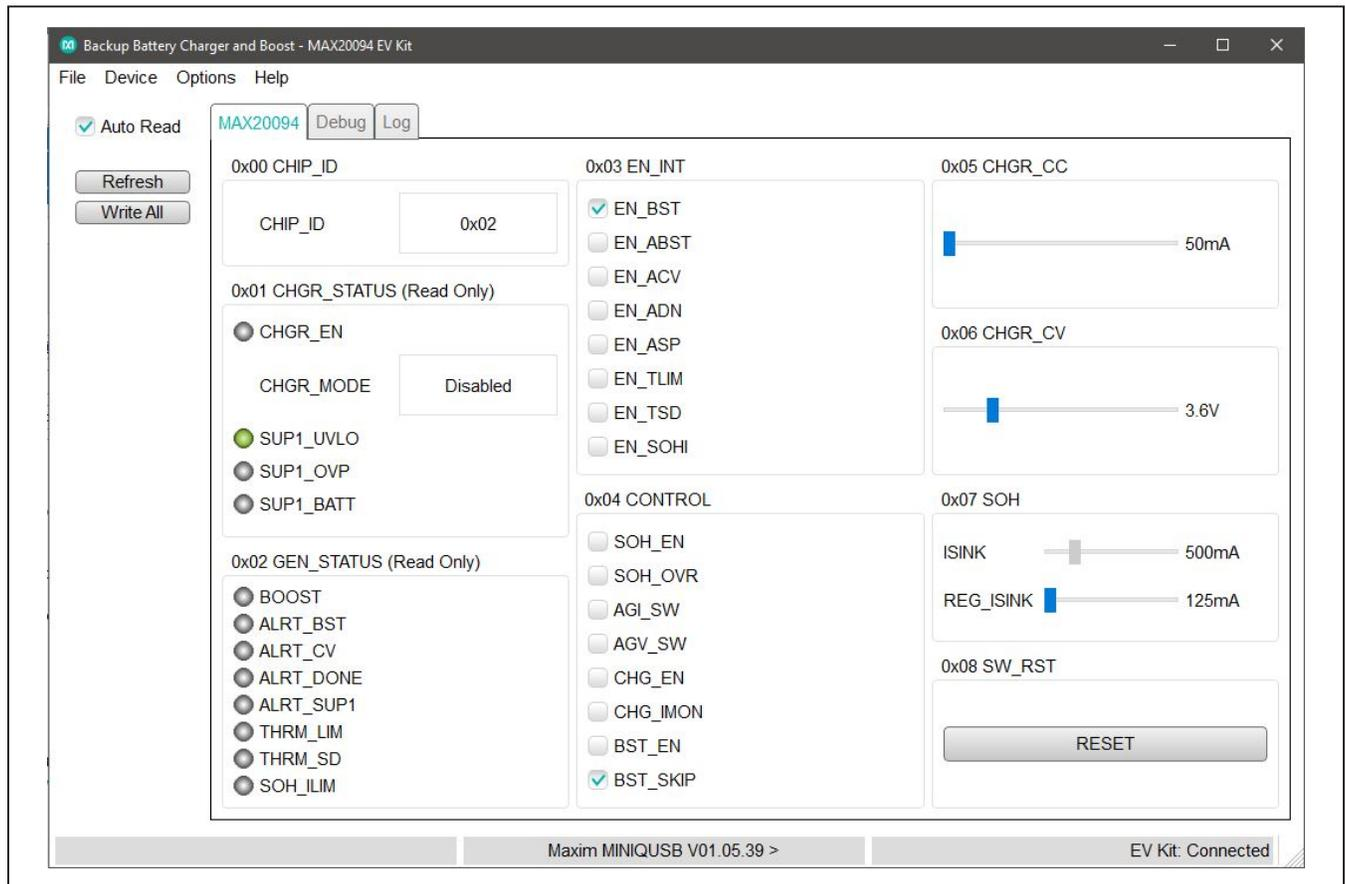

Figure 1. MAX20094 Evaluation Kit Software Main Window (also applies to the MAX20095 EV Kit)
- 7) Check **CHG\_EN** in the GUI (Figure 1) to enable the charger.
- 6) Check **SOH\_EN** in the GUI (Figure 1) to enable the SOH function.
The GUI shown in Figure 1 is the main window of MAX20094 EV kit software, and provides a convenient means to control both the MAX20094 and MAX20095 ICs. When the software is first opened, a splash screen appears. Click anywhere on the screen to proceed to the main window. Verify that the bottom-right corner of the status bar displays **EV Kit: Connected**. If there is a problem with the connection, reconnect the EV kit to the PC, power it up, and then click **Device > Connect**, or press F9 on the keyboard. Refer to the MAX20094/MAX20095 IC data sheet for a full description of each register and their bits.
In constant-current mode, the fast-charging current can be adjusted based on system requirements. To adjust this on the EV kit, adjust the 0x05 CHGR\_CC slider in the GUI (Figure 1). If a power supply without sinking capability is used for BBAT+, a power resistor should be connected in parallel to the board to dissipate the charge current (flowing from board to supply). To prevent excess power from being drawn, the optimal resistor value is derived from: